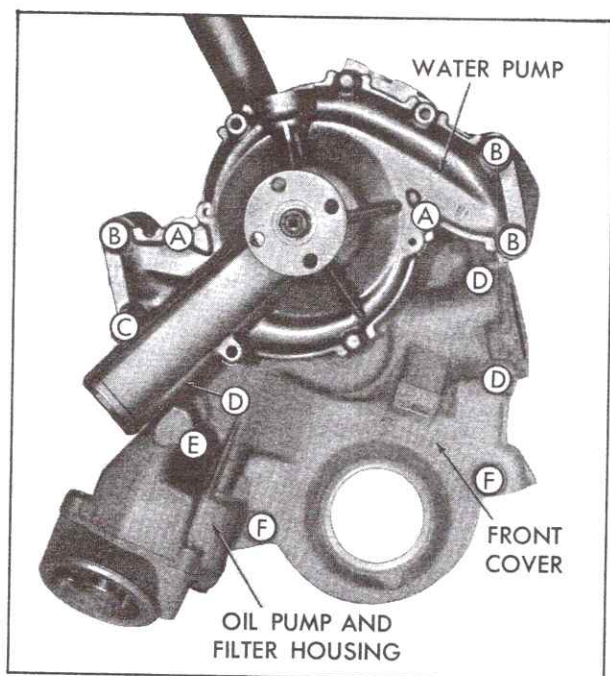

Fig. 6-121 Engine Front Cover Attaching Screws
24. Remove remaining nine cap screws that hold engine front cover to cylinder block and remove cover with water pump attached, Fig. 6-121. Discard gasket.
2. Install front cover, with water pump attached, over end of crankshaft, lining up dowel holes in cover with locating dowels on cylinder block. Secure with twelve attaching screws. Refer to Fig. 6-121 for proper screw location and torque specifications.
9. On cars equipped with A.I.R. system, position air pump and front mounting bracket on engine front cover, and secure with three attaching screws. See Fig. 6-121 for torque specifications on attaching screws.
3. Install water pump on front cover, lining up locating dowels on front cover with dowel holes on pump body, and secure with five attaching screws. See Fig. 6-121 for screw location and torque specifications.